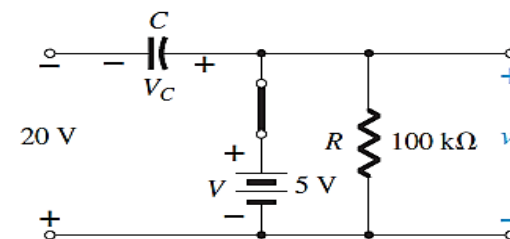

Fig. 1.2 : Determining V_o and V_C with the diode in the “on” state.
Step 1: For $t_1 \rightarrow t_2$ of the v_i since the diode is in its short-circuit state. The network appears as shown in Fig. 1.2 .